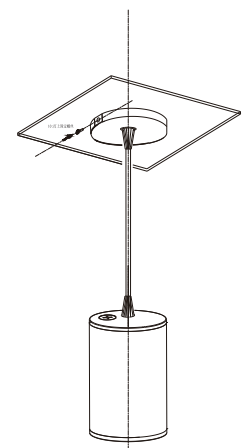

Fig 17
6. Attach the fixing screws. (Fig 17)